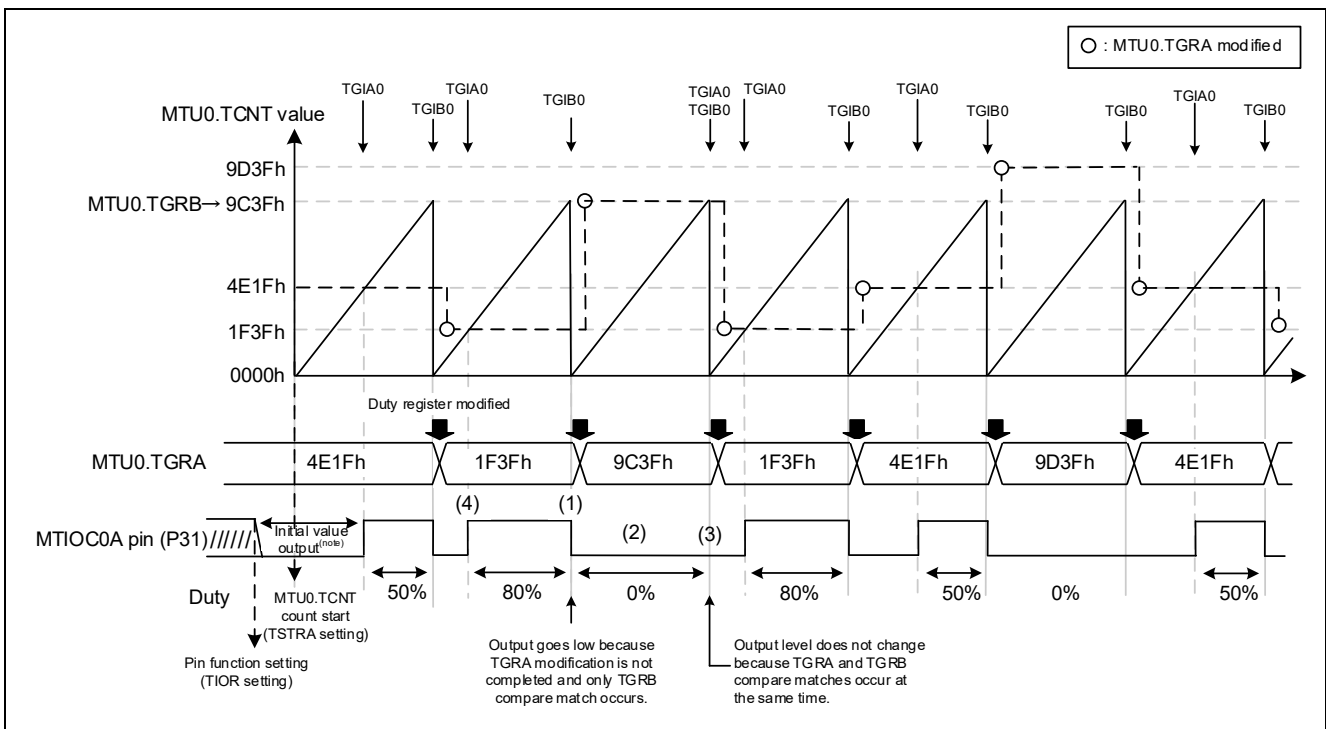
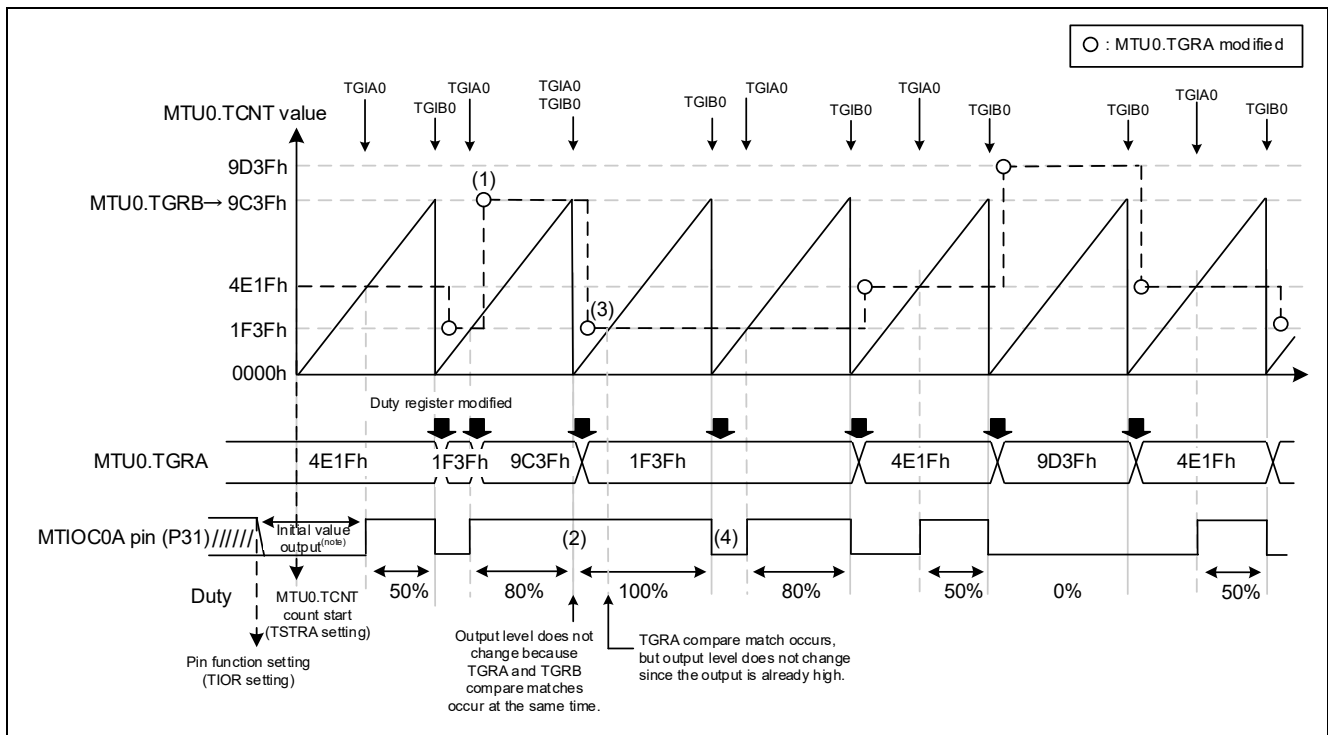

Figure 3.82 PWM Output with Duty Cycles 0% to 100% (without buffer)
Figure 3.83 PWM Output with Duty Cycles 0% to 100% (without buffer)
The TGRA value is changed when TGIB0 occurs, in the timing shown in (1) in Figure 3.82, and output is changed to low because only the TGRB compare match occurs. As a result, even though 100% is desired the output, 0% is output ((2) in Figure 3.82). Also, because output does not change when the TGRA and TGRB compare matches occur at the same time, low is retained ((3) in Figure 3.82).
Figure 3.83 shows how to modify the TGRA at the timing indicated by (4) to avoid the conditions of (2) in Figure 3.82.
The TGRA value is modified when TGIA0 occurs ((1) in Figure 3.83).
When the TGRA value is the same as the TGRB value, both compare matches occur at the same time. Because output does not change when two compare matches occur at the same time, high is retained and 100% duty cycle is output ((2) in Figure 3.83).
The TGRA is changed to 80% when TGIB0 occurs ((3) Figure 3.83).
The pin outputs low when the 100% duty cycle TGRB compare match occurs ((4) Figure 3.83). At this time, the TGRA remains at 80% again.
When switching from duty cycle 100% to 80%, two compare matches will occur, including the TGRA compare match that occurred at the same time as the TGRB compare match ((3) in Figure 3.83).